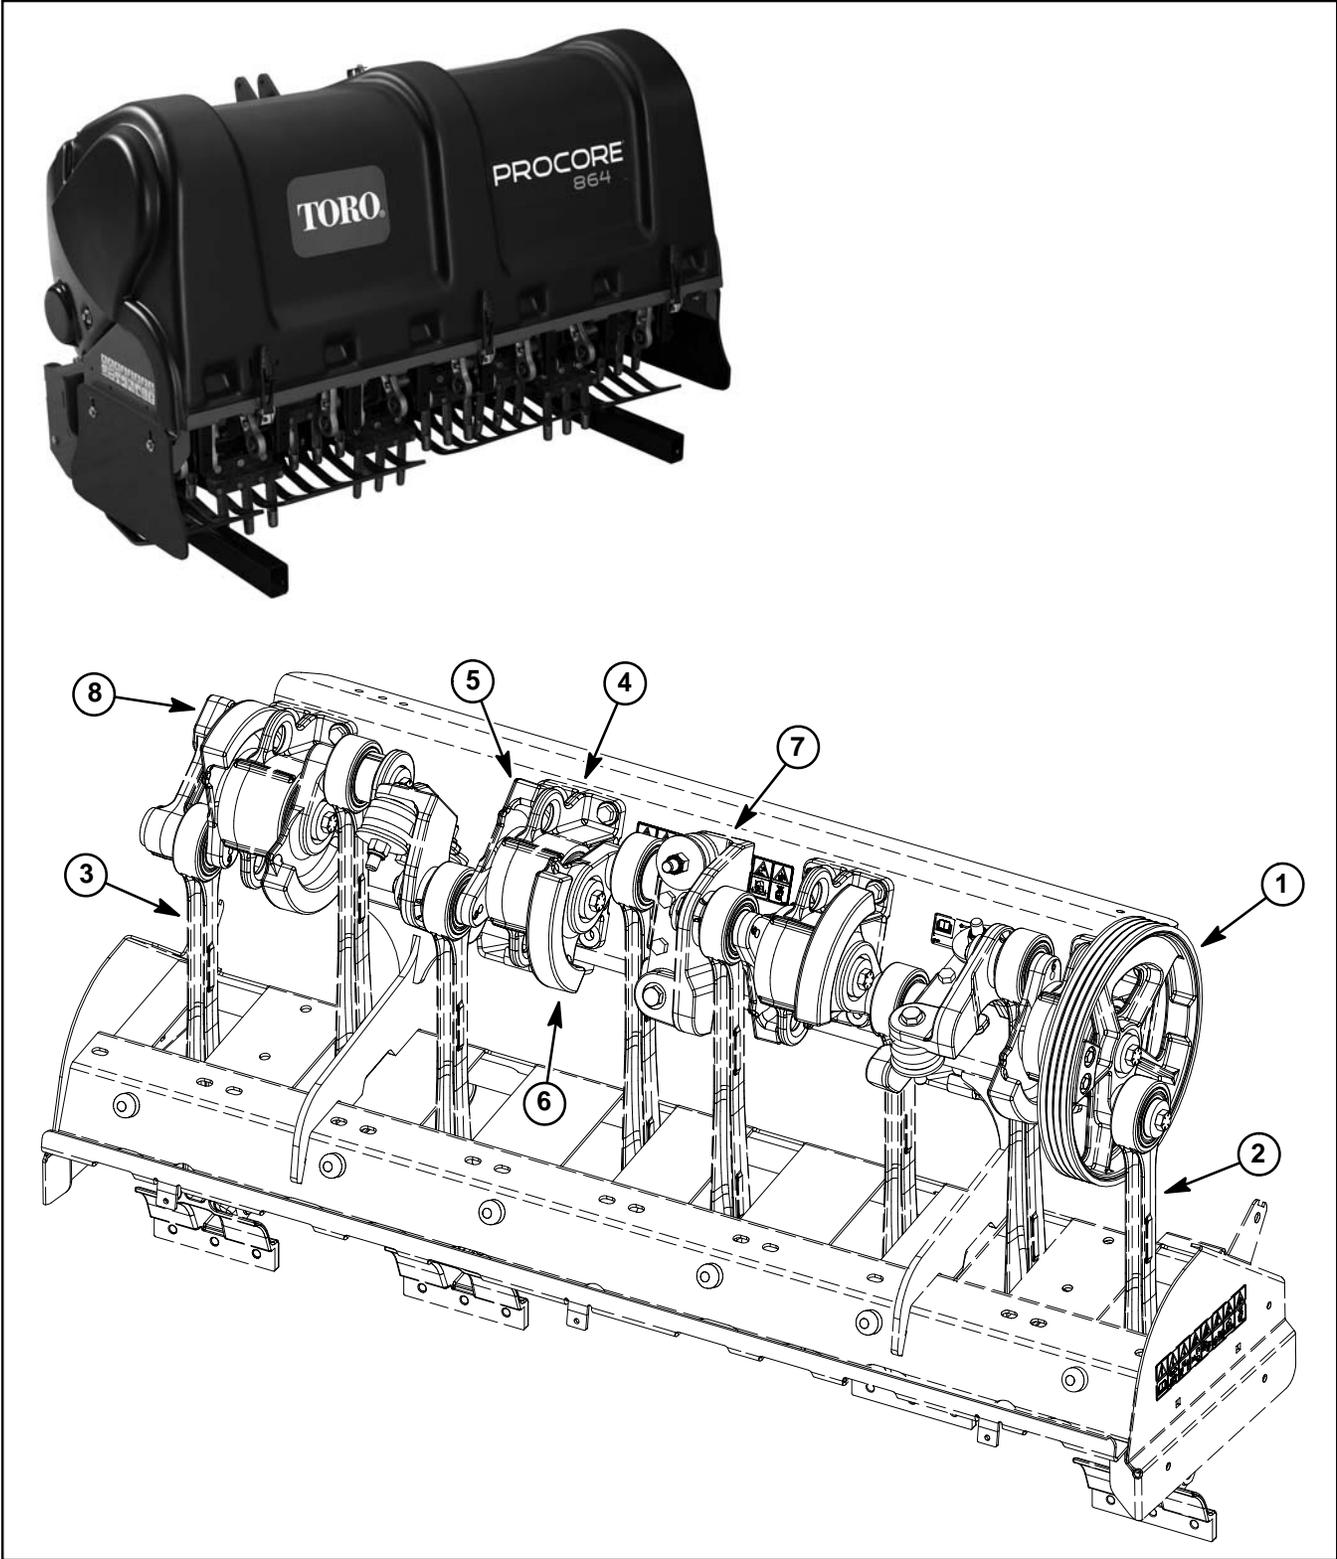

Figure 1
Coring Crankshaft (Fig. 1)
The coring crankshaft assembly is composed of eight (8) crankarms. The crankarms are timed for proper aerating operation. Coring crankshaft positions are identified based on their relationship with the crankshaft driven pulley. The #1 position is at the pulley side of the crankshaft (Fig. 1).